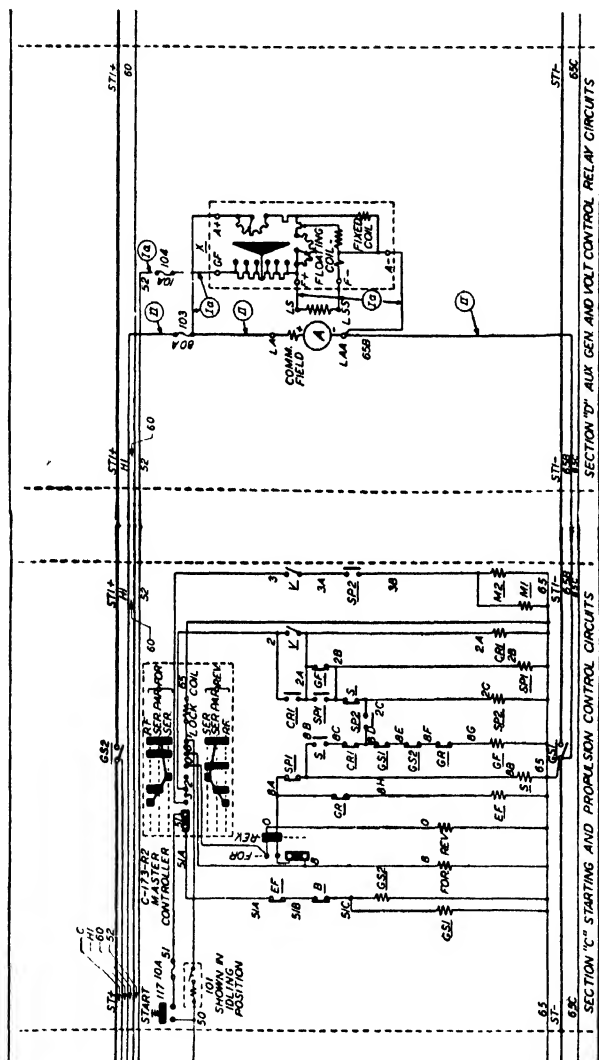

Fig. 42—Continued
*Excitation Circuits* (See Section E). Refer to Fig. 42. The exciter field is doubly fed. It gets some self-excitation from its own voltage from EA terminal and wire R5, through some resistance, to field on wire R6 and back to the exciter terminal EAA. It also gets separate excitation from the battery through contactor EF, a single tube "soft start" resistor (not on some 660-hp. locomotives), some more resistance, thence to the exciter field and back to the battery. The soft start section is cut out by a throttle switch 110 (relay CR2 on multiple unit equipments) at about  $\frac{1}{4}$  throttle. The exciter armature then feeds the generator field through contactor GF, across whose contacts a discharge resistor is connected.
*Battery Charging Circuits* (See Sections A, B and D). Refer to Fig. 42. When the auxiliary generator is started and builds up voltage, the RC relay picks up and closes B contactor. This makes a circuit from terminal LA through fuse 103, RC series coil, contactor B, battery charging resistor BR, ammeter shunt 102, battery fuse 105 and switch 100 to the battery and back through the other pole of the switch to the auxiliary generator. When shutting down, the generator voltage drops, and as soon as the battery starts to send current backward into the generator, the RC series coil causes this relay to drop out and open contactor B.